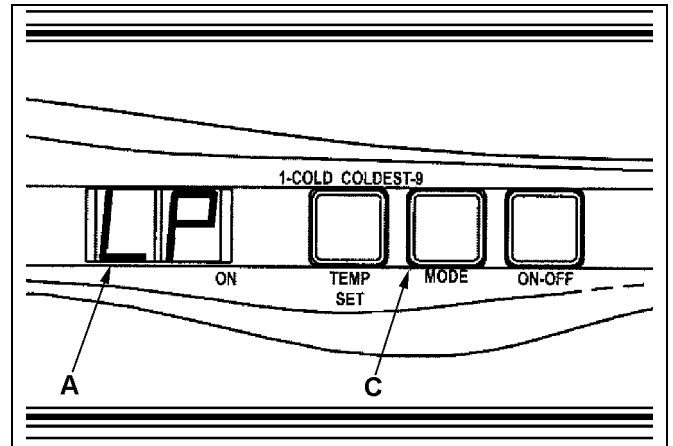

Figure 9-11 – Manual LP Gas Operation
- Push and hold the mode button (C) until “LP” is shown in the display (A). Release the mode button. After ten seconds, the display will go off and the green power on light will be illuminated. The refrigerator is operating on LP gas. See figure 9-11.